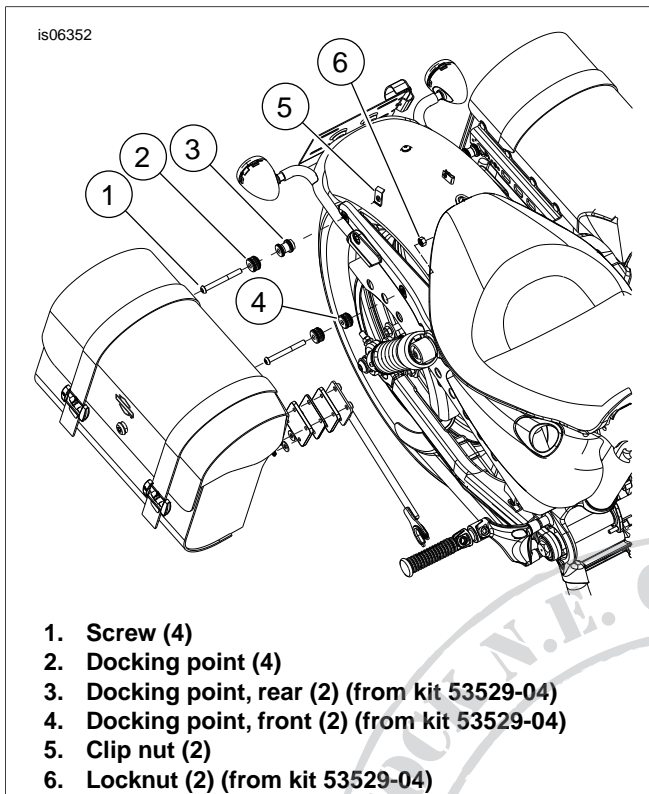

Figure 2. Docking Hardware Stack-Up
1. See Figure 2. Obtain a docking point (2) and screw (1) from the kit, and front docking point (4) and locknut (6) removed earlier. Note the small diameter collar on one end of both docking points.
4. Obtain a docking point (2) and screw (1) from the kit, and rear docking point (3) and clip nut (5) removed earlier. Note the small diameter collar on one end of both docking points.